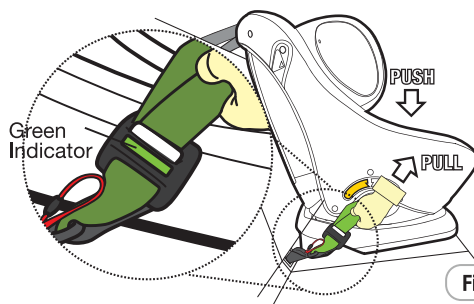

Figure 3
Step 3: Push down on the restraint (with knee or hand). Remove all slack from the LAC straps by pulling the adjuster strap firmly. The **GREEN** indication is activated (refer Figure 3 & 4).